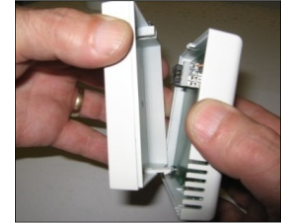

Fig 12
Step 1 Using a screwdriver undo the screw on the top of the remote control case and pull the back case away (see Fig 12).